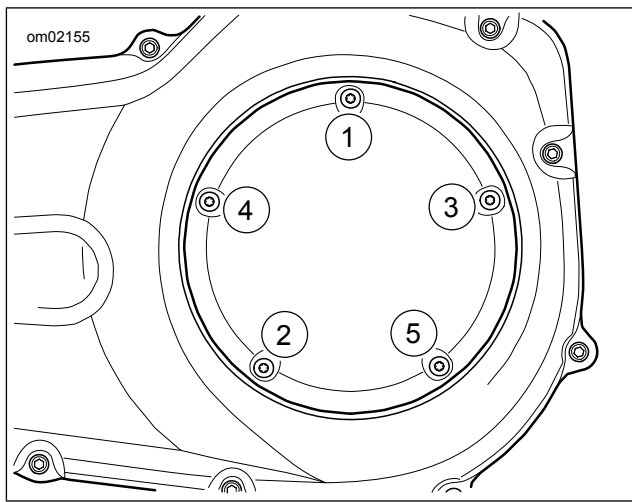

Figure 8. Clutch Cover Tightening Sequence
- c. Refer to Figure 8. Tighten screws in sequence shown.